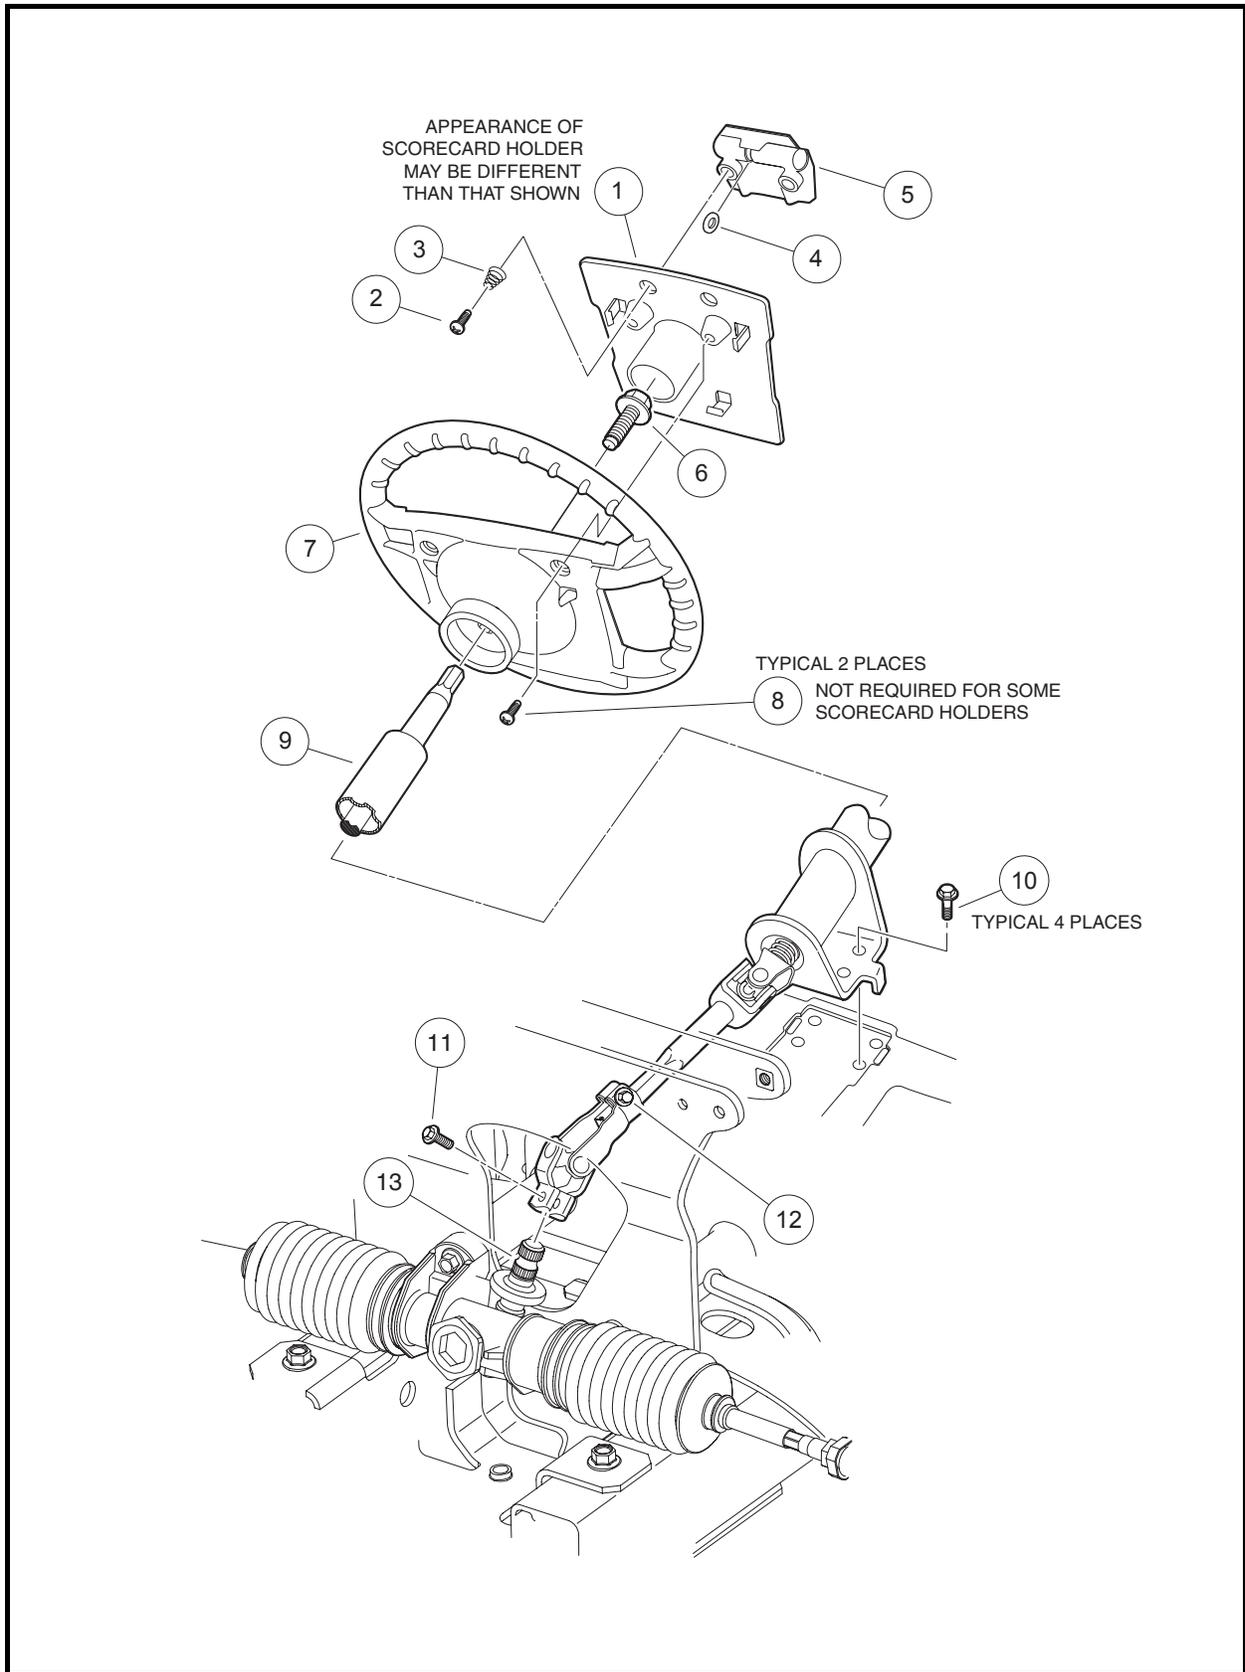

Figure 7-3 Steering Column
2. If scorecard holder is secured to steering wheel with screws, remove the two mounting screws (8) (**Figure 7-3, Page 7-3**).
3. Remove the scorecard holder plate (1).
4. Match mark the steering wheel (7) and steering column shaft (9) so when the steering wheel is removed it can be placed back in exactly the same position on steering column shaft.
5. Loosen the steering wheel bolt (6) and back it off approximately 1/4 inch (6 mm). Do not remove the bolt.
7. Remove the steering wheel bolt (6) and the steering wheel (7) from the steering column (9) (**Figure 7-3, Page 7-3**).
1. Install the steering wheel (7) on the steering column shaft (9). Be sure to align the match marks placed on the wheel and steering column in step 4 above (**Figure 7-3, Page 7-3**).
2. Install the steering wheel bolt (6) and tighten to 13 ft-lb (17.6 N·m).
3. Install the scorecard plate (1).
4. If required, install the plate mounting screws (8). Tighten screws to 16 in-lb (1.8 N·m).
4. Loosen the bolt (11) that attaches the steering column universal joint to the stud on the steering gear **(Figure 7-3, Page 7-3)**.
5. Remove the four bolts (10) that attach the steering column to the frame.
2. Insert the end of the steering column with the universal joint through the front underbody. Position universal joint over splined stud on the steering gear. Leave bolt (11) loose until steering column is mounted to frame in step 3 **(Figure 7-3, Page 7-3)**.
3. Align the holes in the steering column mounting bracket with holes in the vehicle frame. Secure column to frame with four bolts (10). Tighten bolts to 18.4 ft-lb (25 N·m).
4. Tighten universal joint bolt (11) to 18.4 ft-lb (25 N·m). Verify bolt (12) torque is 18.4 ft-lb (25 N·m).
2. Align the flat portion of the shaft (13) spline with the bolt hole in the upper universal joint and then slide the shaft into the universal joint. Install the bolt and tighten to 18.4 ft-lb (25 N·m) (**Figure 7-3, Page 7-3**).